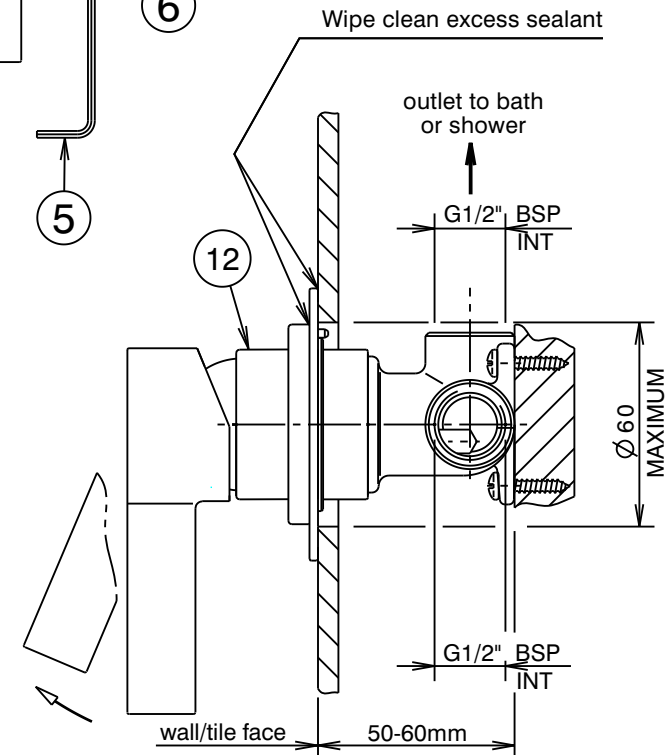

Fig. 1
Installation (Fig. 1 & 2)
- 3) Carefully fit the cover plate (8) followed by the retaining ring (7) onto the mixer body (12), ensuring the slot in the cover plate is at the top & the pin in the retaining ring is engaged in the slot (with the screws at the bottom). Push the retaining ring and cover plate firmly against the wall/tile face and tighten screws (6) using 2mm allen key (5). Wipe clean any excess sealant from the chrome surfaces & the wall/tile face (See Fig. 1).
- 4) Fit handle (1) taking care that it is pushed fully onto cartridge stem, then tighten grub screw (2) using the 2.5mm allen key (3). Fit plug (4), taking care not to damage the decorative finish.